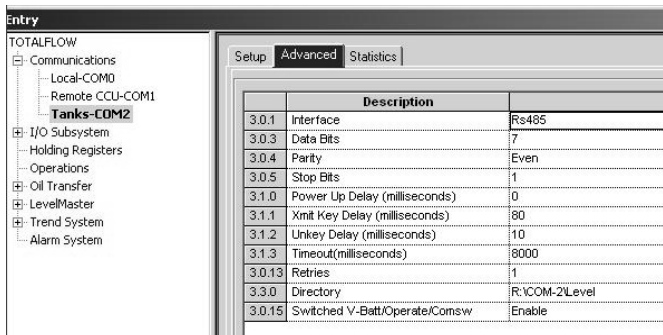

Figure 15. Advanced Communication Setup
- 3E** Move to the Advanced tab, and set the Xmit Key Delay (80ms), Unkey Delay (10ms), Timeout (8000ms) and Retries (1). When finished, click the Send button (see Figure 15).